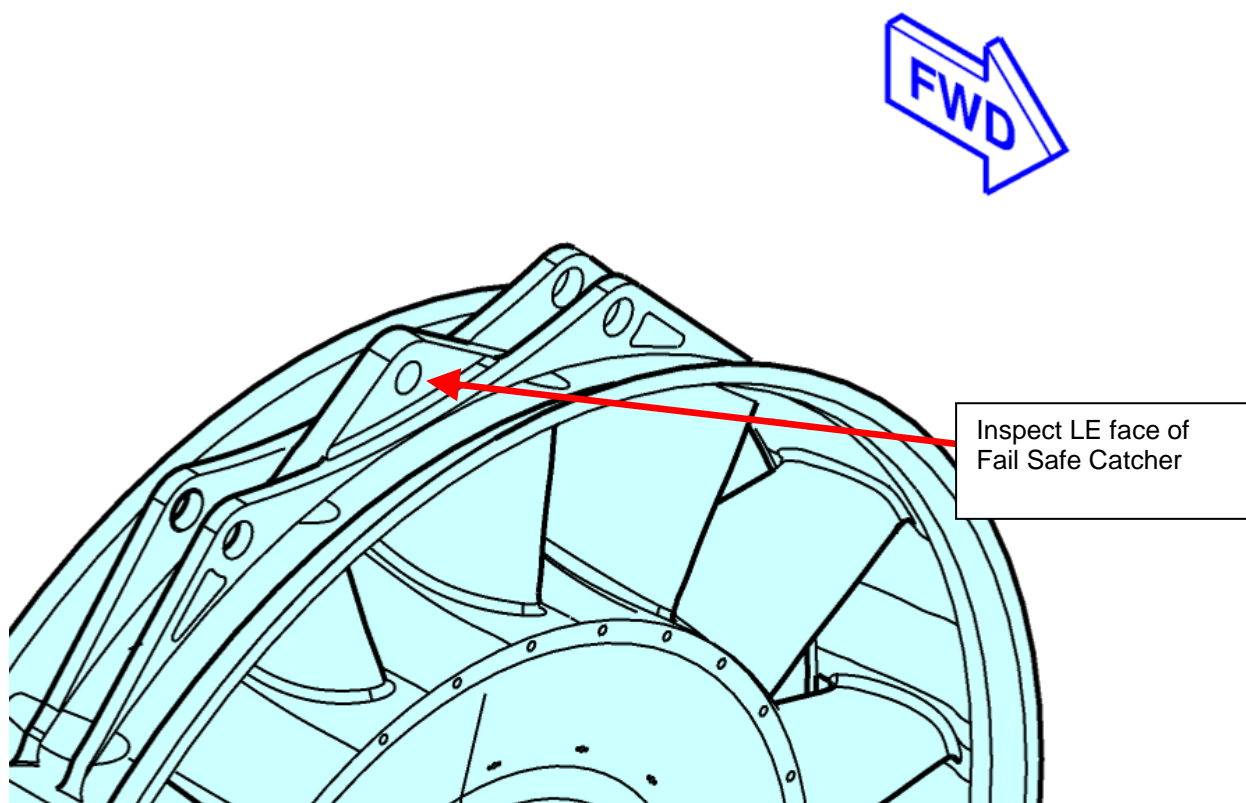
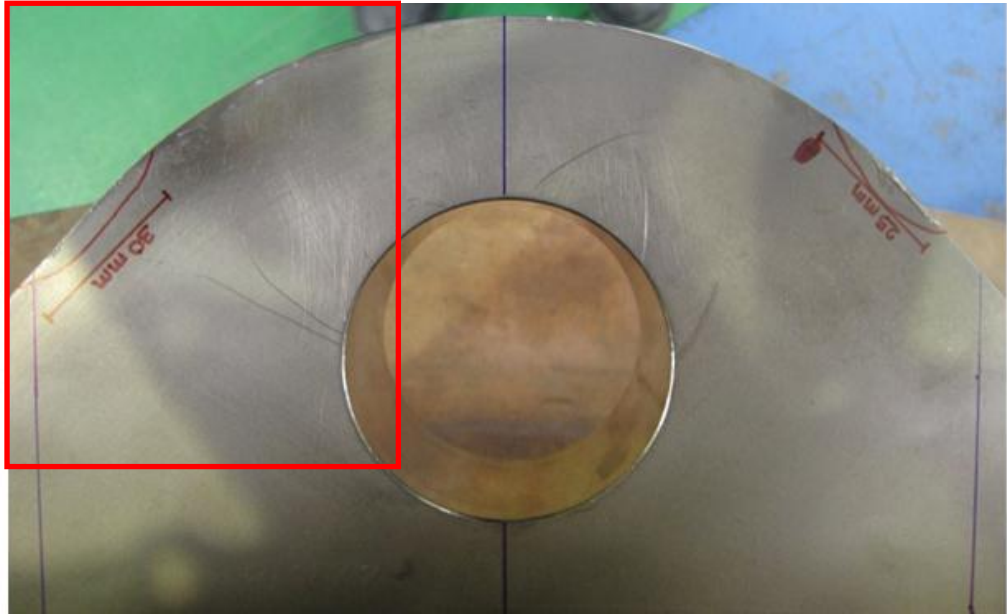

Figure 3 - In Shop - Fail Safe Catcher Inspection Locations
Figure 4 - In Shop - Fail Safe Catcher Damage
- (i) Visually inspect the LE face of the fail safe catcher (see Fig.3) for examples of damage (see Fig.4).
- (ii) Photograph any damage and note location of the damage on the fail safe catcher. See Fig.4 for example photographs of typical damage.